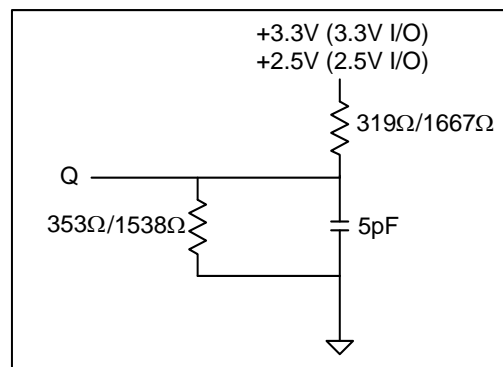

Figure 2
3. The load used for V_{oH}, V_{oL} testing is shown in Figure 2. AC load current is higher than the shown DC values.
2. Output loading is specified with $C1=5\text{pF}$ as in Figure 2.